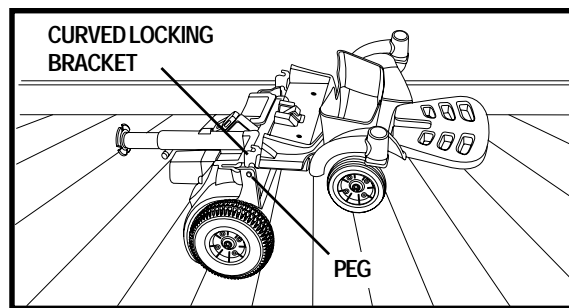

Figure 14. Align Frame Sections
2. While holding the front section parallel to the floor, align the curved locking brackets on the front section with the corresponding pegs on the rear section. See figure 14.